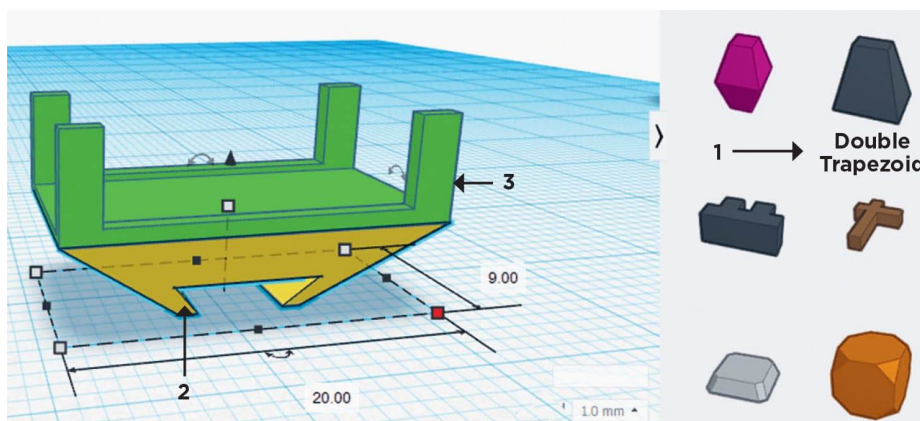

FIG. 6: The camera holder cradle with a dovetail joint section created using a double trapezoid.
6. The camera mount will have to be created as a separate piece so it can be 3D printed easily. The camera mount is a basic cradle that holds the camera in it with a press fit. Simply create a camera mount that attaches to the ball handle using a dovetail joint from Lab 13 (shown here). This will require two parts: the dovetail joint mate (arrow 2 in fig. 6) that attaches to the cradle is created using a **Double Trapezoid** tool from the **Shape Generators Tool Box** (arrow 1 in fig. 6).
7. The cradle is created using multiple **Box** tools to create the shape shown by arrow 3 in fig. 6. The camera will fit snugly in the
cradle, so the width of the cradle should match the thickness of your camera (about 7 mm for some cellphone cameras). Then merge the cradle and the cradle mating double trapezoid from step 6 (fig. 6).